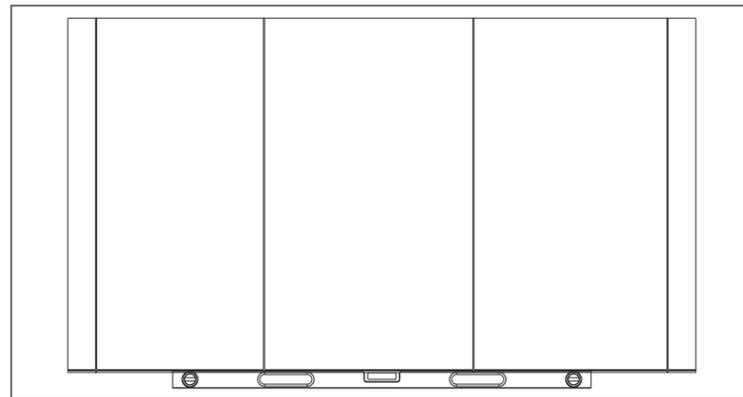

Figure 2: Use Digital Level to Draw Horizontal Line
- b. Use a digital level to draw a horizontal straight line from that point. Refer to **Figure 2**. Draw the line to the edges of the display.